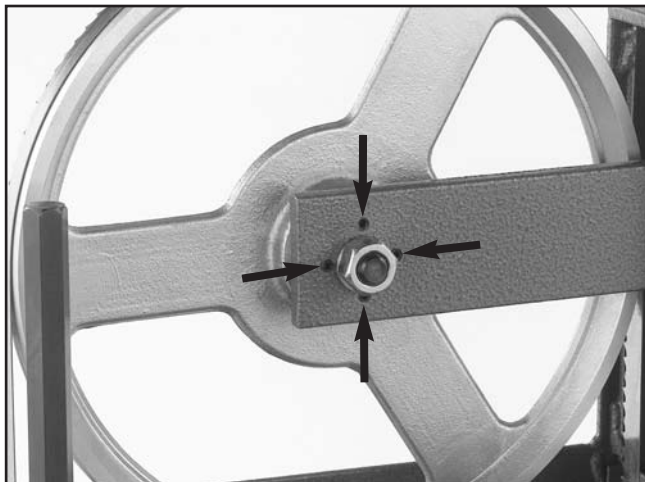

Figure 36. Blade tracking controls.
3. The blade tracking controls are shown in **Figure 36**. Each setscrew moves that portion of the wheel in or out. For example, the top setscrew controls the top of the wheel, the left setscrew controls the left of the wheel and so forth.